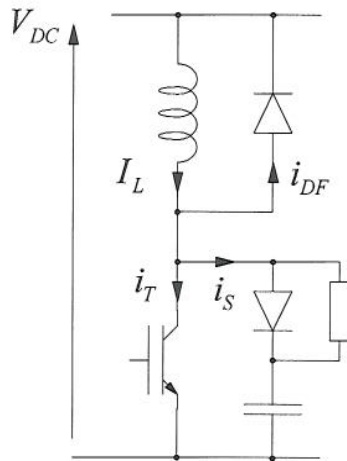

Figure Q2.1
2. Figure Q2.1 shows a turn-off snubber used with an IGBT that switches a constant current load, $I_L = 10$ A. The supply voltage of the circuit is $V_{DC} = 250$ V. The switching frequency is 10 kHz.